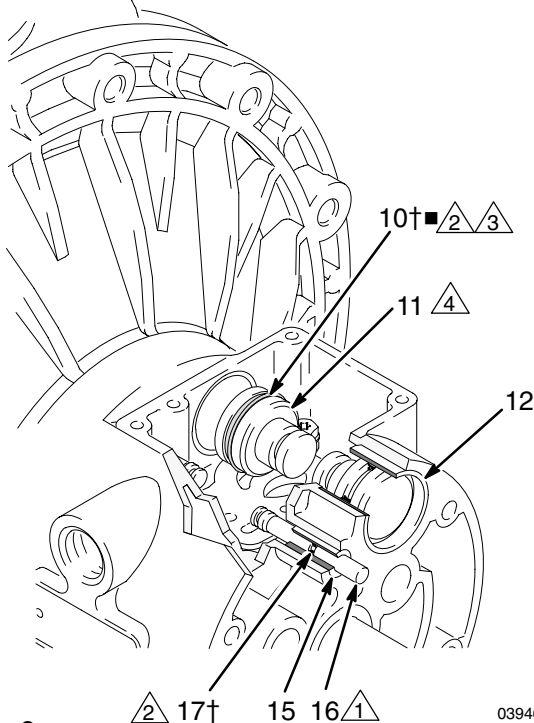

Fig. 8
4. Pull the two actuator pistons (11) out of the bearings (12). Remove the u-cup packings (10) from the pistons. Pull the pilot pins (16) out of the bearings (15). Remove the o-rings (17) from the pilot pins. See Fig. 8.
6. Inspect the bearings (12, 15) in place. See Fig. 8. The bearings are tapered and, if damaged, must be removed from the outside. This requires disassembly of the fluid section. See page 20.
4. Install an o-ring (17) on each pilot pin (16). Grease the pins and o-rings. Insert the pins into the bearings (15), **narrow** end first. See Fig. 8.
5. Install a u-cup packing (10) on each actuator piston (11), so the lips of the packings face the **narrow** end of the pistons. See Fig. 8.
6. Lubricate the u-cup packings (10) and actuator pistons (11). Insert the actuator pistons in the bearings (12), **wide** end first. Leave the narrow end of the pistons exposed. See Fig. 8.